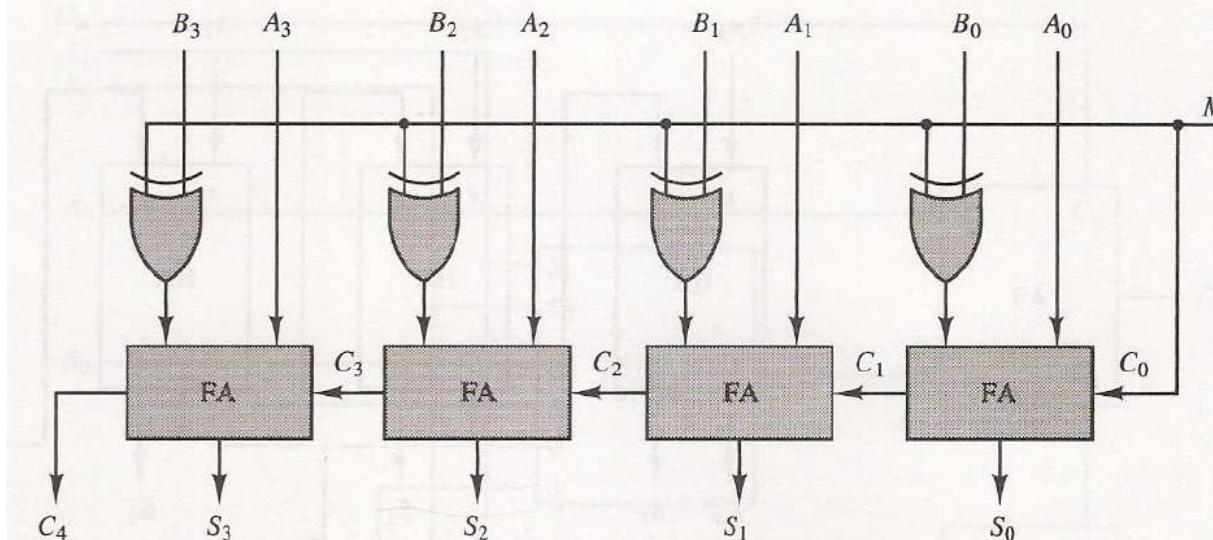

Figure 4-7 4-bit adder-subtractor.
- 4-12.** The adder-subtractor circuit of Fig. 4-7 has the following values for input mode M and data inputs A and B . In each case, determine the values of the outputs: S_3 , S_2 , S_1 , S_0 , and C_4 .